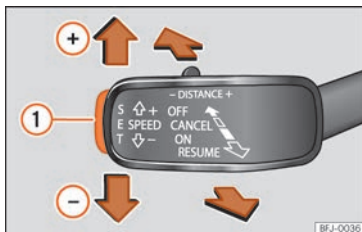

Fig. 255 On the left of the steering column: buttons to operate the speed limiter.
- While driving, press button **SET** »» Fig. 255 ①.
- Press the button **SET** »» Fig. 255 ① to reduce speed in small increments of 1 km/h (1 mph).
If you want to temporarily deactivate the speed limiter, e.g. for overtaking, move the lever to the pressure point **CANCEL** or press button »» Fig. 255 ②.